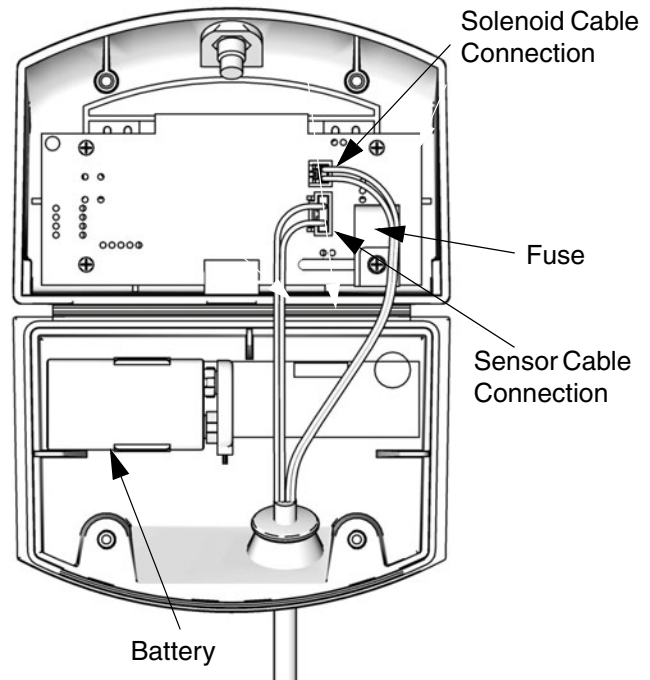

**FIG. 10. Remove DataTrak**
3. Remove DataTrak module from bracket. See FIG. 10. Take module and attached cable to a non-hazardous location.